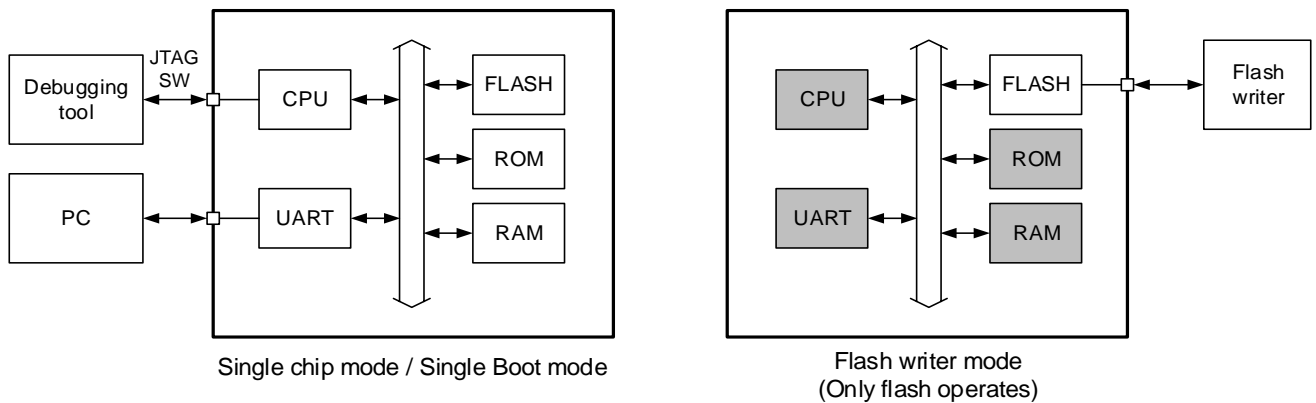

Figure 5.1 Measures for Security Risk
TMPM3H Group(2) contains two measures for security risk to prevent unauthorized access. Table 5.27, Table 5.28 and Figure 5.1 show the assumed access paths and protection targets for each operation mode.